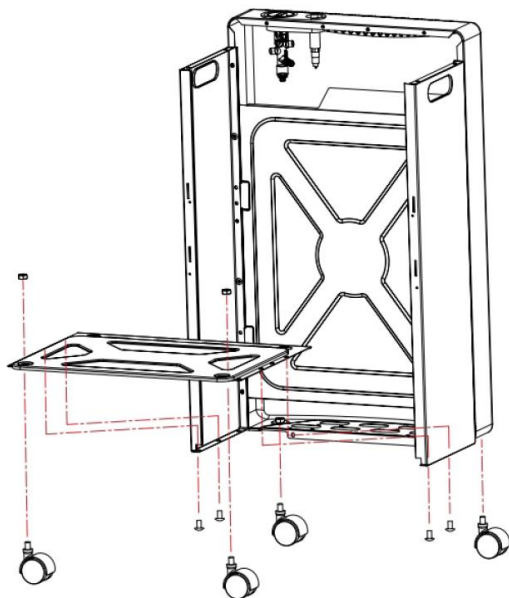

Fig. 2
2. Attach two wheels  to the bottom of the front panel of the device (6). Attach the other two wheels to the bottom panel (10) with two nuts . Use 4 bolts 5*8 mm  to attach the bottom panel (10) to the left and right sides (see fig. 2).